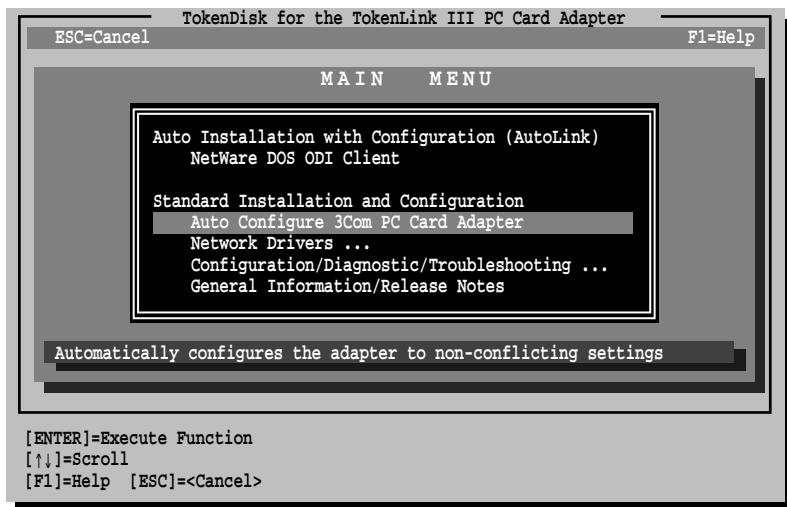

Figure 4-2 Main Menu with Auto Configure Option Selected
- 4 Select the **Auto Configure 3Com PC Card Adapter** option, as shown in Figure 4-2, and press [Enter].
- 1 Select the Configuration/Diagnostic/Troubleshooting option on the main menu, shown in Figure 4-2. Press [Enter].